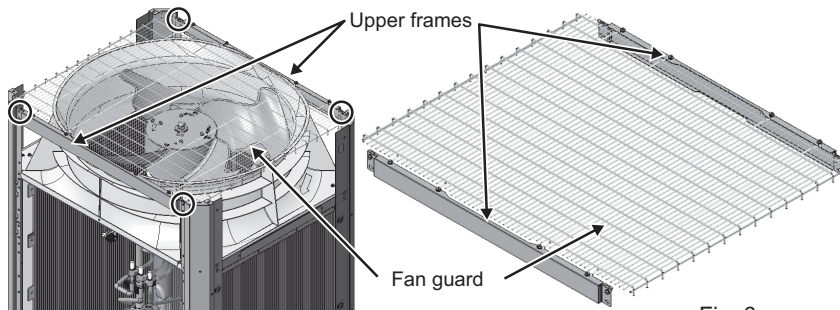

Fig. 6
- (6) Remove the fan guard and the upper frames. (Four screws: Fig. 6)